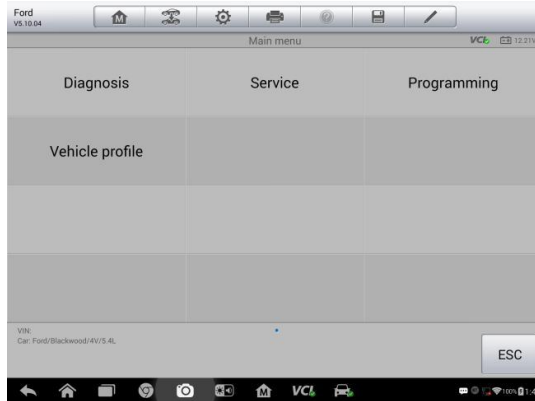

Figure 4-3 Sample Vehicle Diagnostics Screen
5. Tap **Done**. The vehicle will be identified in a few seconds, and once the matching is successful, the system will guide you to the Vehicle Diagnostics screen directly (*Figure 4-3*).
The Vehicle Diagnostics screen (*Figure 4-3*) has three main options: